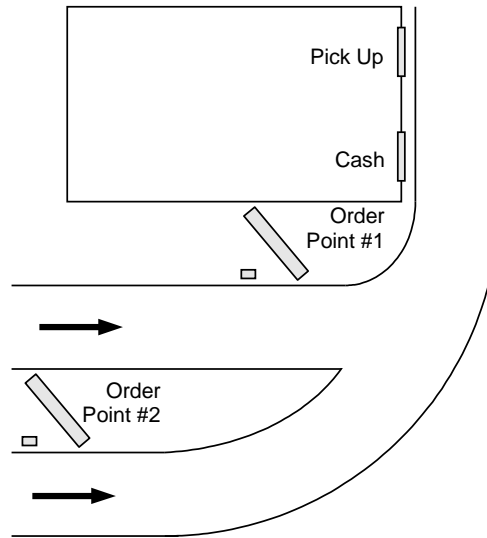

Figure 3
- A *Side-by-Side Drive Thru*, (See Figure 3) also known as a “Y” or “Merge” drive thru, is comprised of two lanes of ordering traffic side-by-side, each with its own ordering point, but merges into a single lane with one or two drive thru windows for payment and pick up.